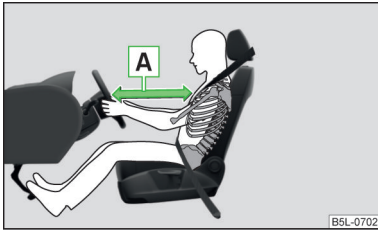

Fig. 8
- It is important that the driver and front passenger maintain a distance of at least 25 cm to the steering wheel or dashboard A » Fig. 8. Not maintaining this minimum distance will mean that the airbag system will not be able to properly protect you – hazard! The front seats and the head restraints must always also be correctly adjusted to match the body size of the occupant.